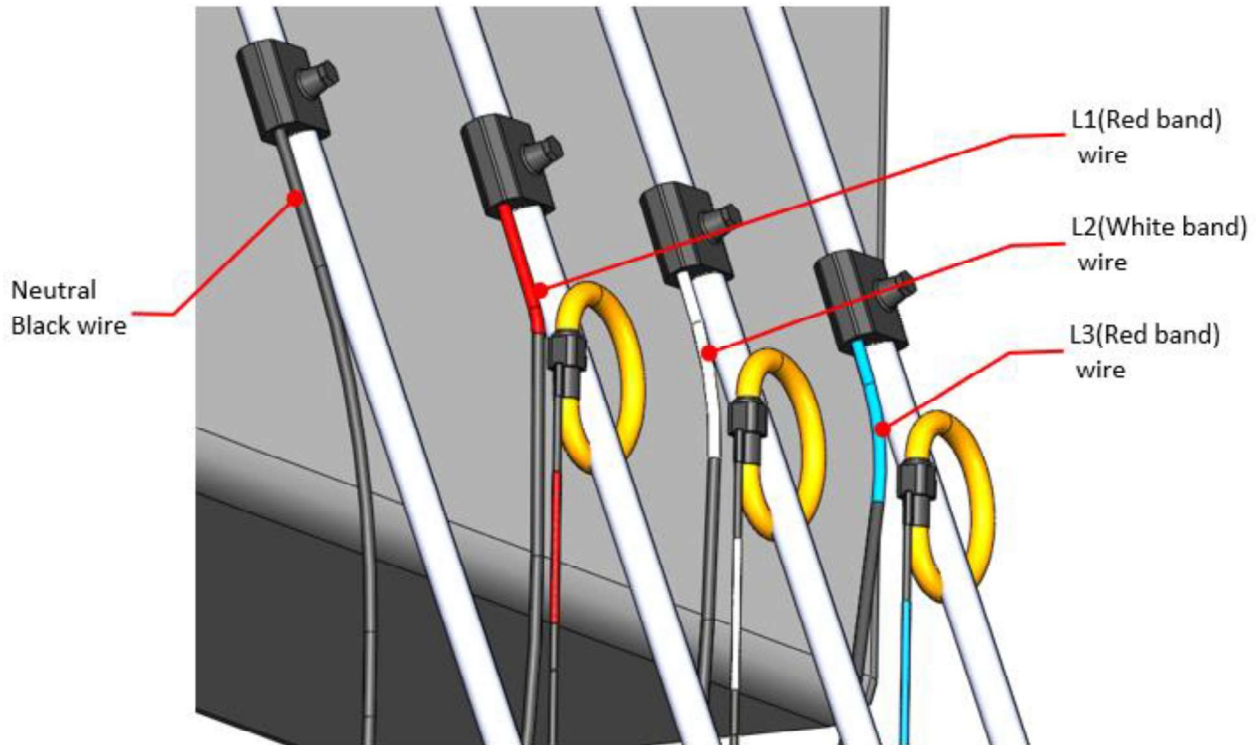

Fig.12
9. Connect the eSensor's voltage sense wires to the Neutral, L1, L2, and L3 of the transformer as shown in Fig. 12.